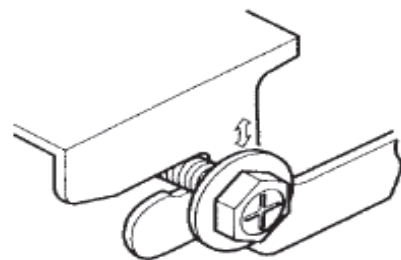

Figure 1-2-4
- Suspension bolt stays inside the cap of indoor unit. Never remove the cap. Lift the unit and slide forward until the dent. (Refer to Figure 1-2-4)